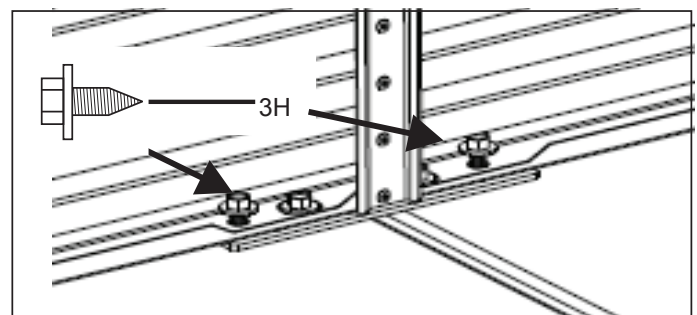

Figure 10
- b. **(Dual installation only)** Install outer screws on common mounting bracket, align top trim and attach with $\frac{3}{8}$ " socket. (See Figure 10).